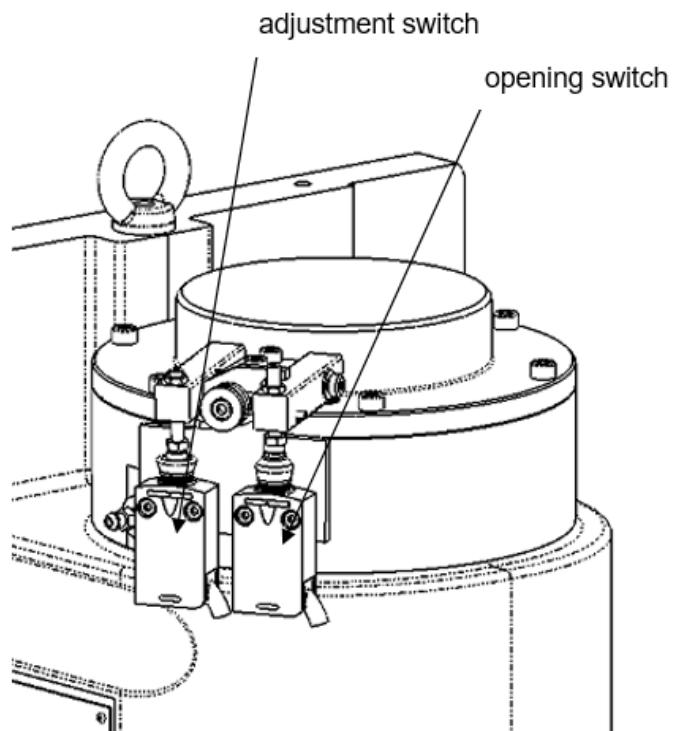
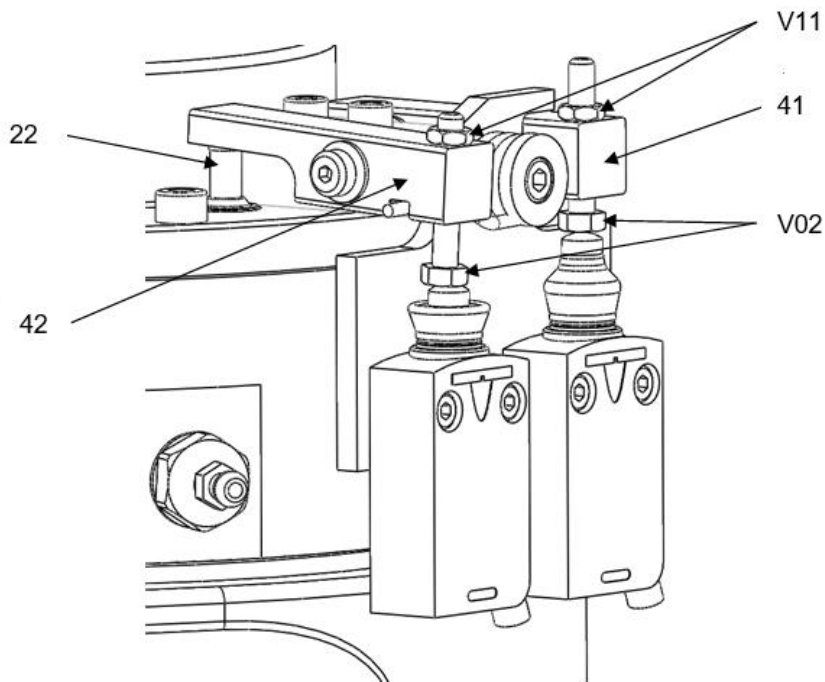

Fig. 5.8
Fig. 5.9
- Loosen the locknut **V11** (8 mm A/F) see Fig. 5.8 and Fig 5.9.
- With the rail brake open, make sure that the liaison axis **22** is in contact on lever **42** see Fig. 5.8 and Fig 5.9.